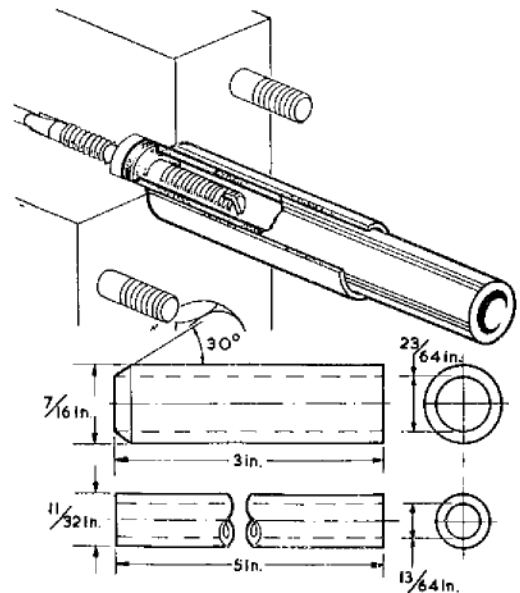

Fig. 4. Tool for inserting S.R. adjusting-screw seal
**30.** The test equipment necessary is illustrated diagrammatically in fig. 4. The air fuel ratio control drain connection, if fitted, must be blanked off before testing. Care must be taken to isolate the low-pressure gauges before high-pressure tests are carried out.
**32.** For the following test the outlet pressure regulating valve, item 12 on fig. 4, must be fully open.